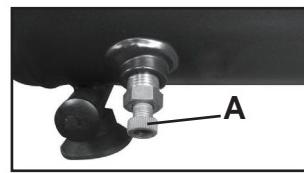

FIGURE 4
DRAIN VALVE (A) FIG. 4. The drain valve is located at the base of the air tank and is used to drain condensation from the tank to prevent corrosion. Drain tank at the end of each use.
- C. Fully open the drain valve (A) Fig. 4, by turning it counterclockwise, to prevent air pressure build-up in the tank.
10. Drain water from air tank. Turn drain valve (A) Fig. 4, counterclockwise to open.
5. Drain water from air tank. Turn drain valve (A) Fig. 4, counterclockwise, to open.